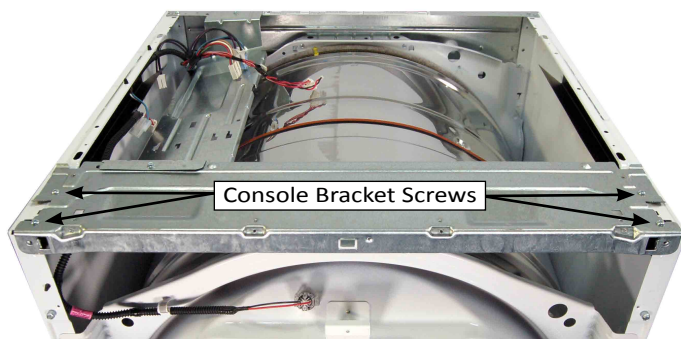

Figure 2
5. Remove the four (4) 1/4" hex-head screws from the front console bracket and remove bracket (see Figure 2).